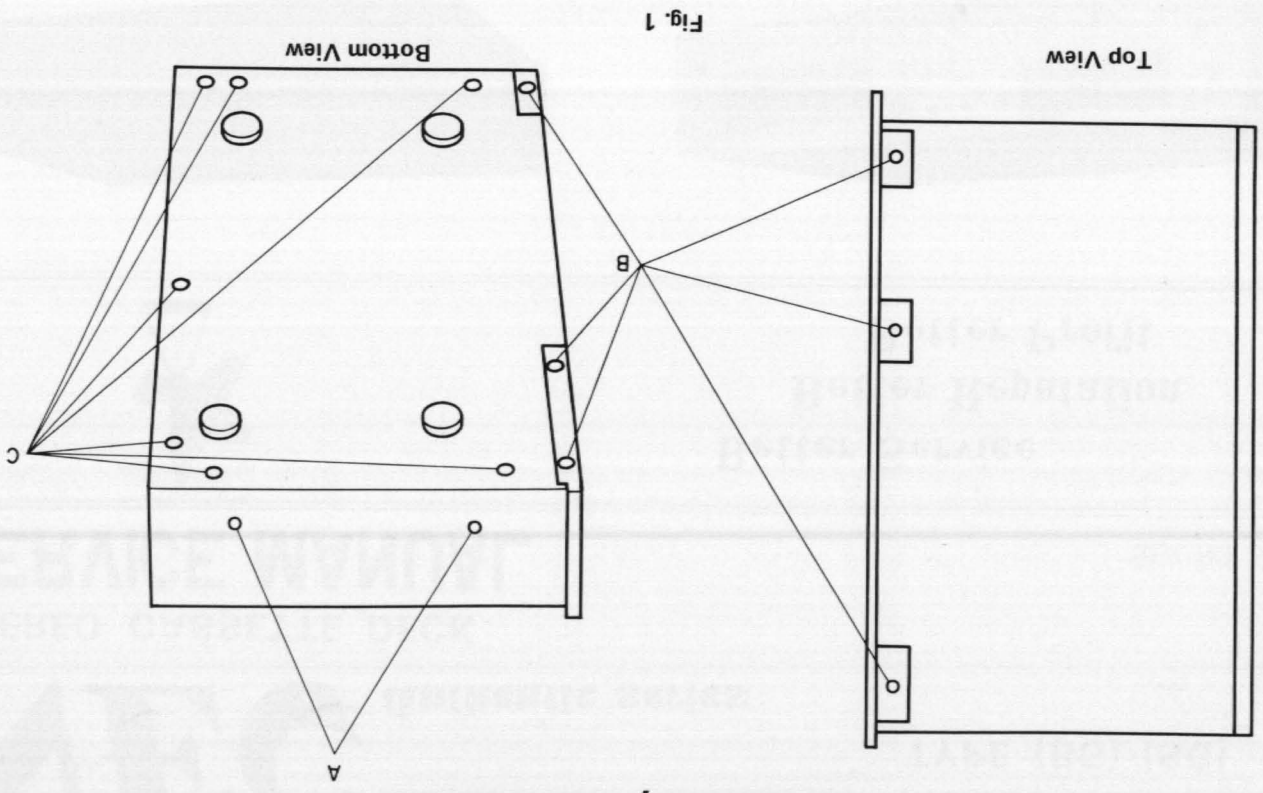

Fig. 1
- Removing cabinet top and bottom cover. See Fig. 1.
1. Remove 4 cabinet screws (A) from left and right sides and lift off cabinet.
2. Remove seven bottom cover screws (C) and lift off bottom cover.
- Removing front panel. See Fig. 1.
1. Remove 6 screws (B) from chassis and lift off front panel.